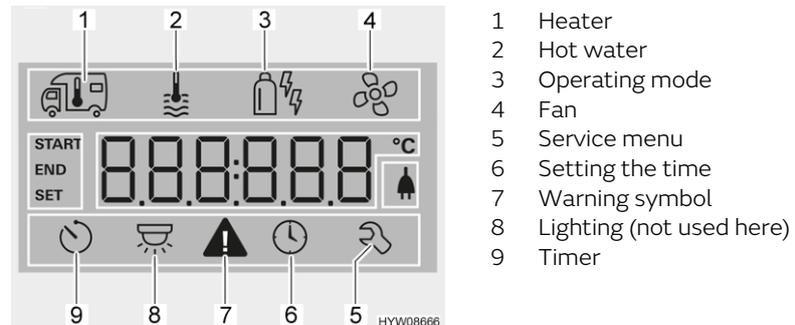

Fig. 231 Display (operating unit)
- Turn rotary push button (Fig. 230,6) until the heater menu symbol (Fig. 231,1) flashes.
- Turn rotary push button (Fig. 230,6) until the hot water menu symbol (Fig. 231,2) flashes.
- Turn rotary push button (Fig. 230,6) until the menu symbol operating mode (Fig. 231,3) flashes.
- Turn rotary push button (Fig. 230,6) until the fan menu symbol (Fig. 231,4) flashes.
- Turn rotary push button (Fig. 230,6) until the timer menu symbol (Fig. 231,9) flashes.
- Press rotary push button. The timer is activated. The timer symbol (Fig. 231,9) flashes when the timer is programmed and active.
The warning symbol (Fig. 231,7) flashes in the event of a warning. The heater continues to operate. In the event of only a temporary fault, the warning symbol goes out automatically.